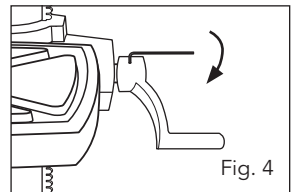

Fig. 4
4. Following this, attach the table adjustment handle (22) to the rear, right hand side of the drill table clamp shaft. Tighten the screw on the base of the table adjustment handle with the small hex key (28). (Fig. 4)